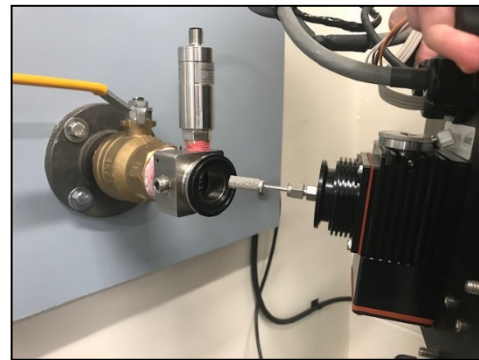

Figure 4: Mounting the Monitor
- 5) Install the black gasket onto the uni-tee, ensuring that it is seated in the groove, as shown (**Fig 4**).